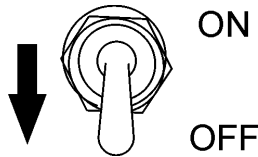

Figure 20. Idle Control switch (OFF)
2. Place the idle control switch (Figure 20) in the **OFF** position.